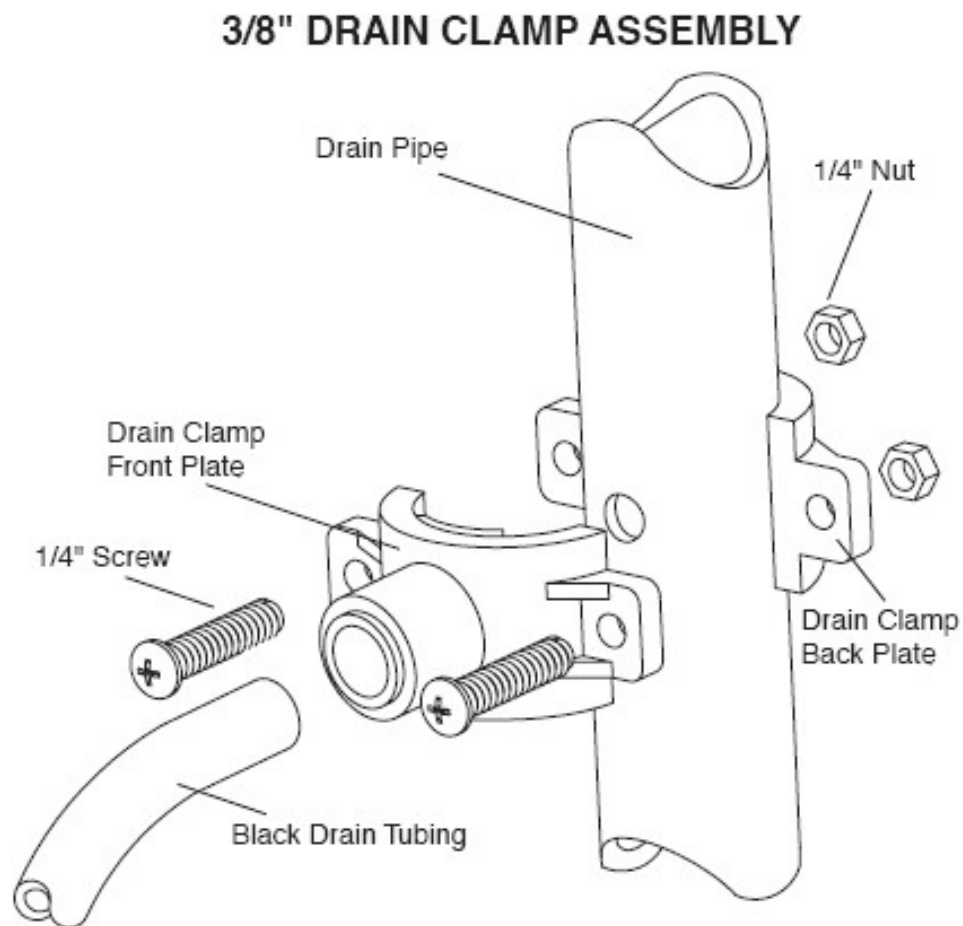

Figure 4
- Refer to Fig. 4, below. To connect the Drain Tubing, install the Compression Nut and the Brass Insert.